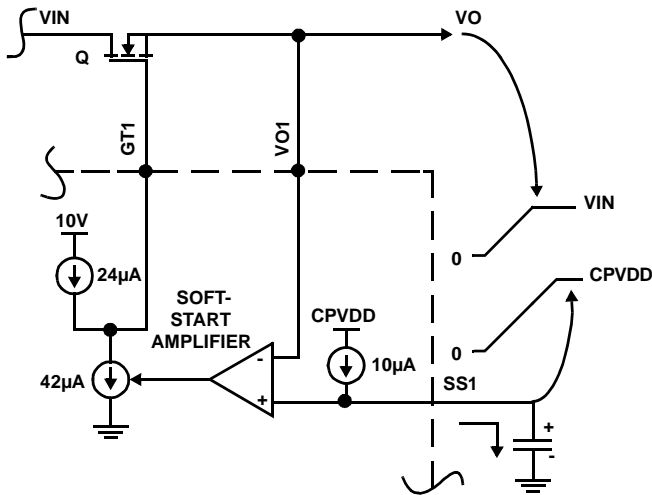

FIGURE 15. SOFT-START OPERATION
The output voltages are monitored through the Vo pins and slew up at a rate determined by the capacitors on the Soft-start (SS) pin, as illustrated in Figure 15. 24µA of gate charge current is available. The soft-start amplifier controls the output voltage by robbing some of the gate charge current thus slowing down the MOSFET enhancement. When the load voltage reaches its set level, as sensed by its respective UV pin through an external resistor divider, the Power Good ($\overline{\text{PG}}$) output goes active.
I_{INRUSH} is the sum of the DC steady-state load current and the load capacitance charging current. If the DC steady-state load remains disabled until after the soft-start period expires (PGX could be used as a load enable signal, for example), then only the capacitor charging current should be used as I_{INRUSH} . The C_{SS} value should always be more than (1/2.4) of that of C_{ISS} of the MOSFET to ensure proper soft-start operation. This is because the C_{ISS} is charged from 24 μA current source, whereas the C_{SS} gets charged from a 10 μA current source (Figure 15). In order to make sure both V_{SS} and V_O track during the soft-start, this condition is necessary.